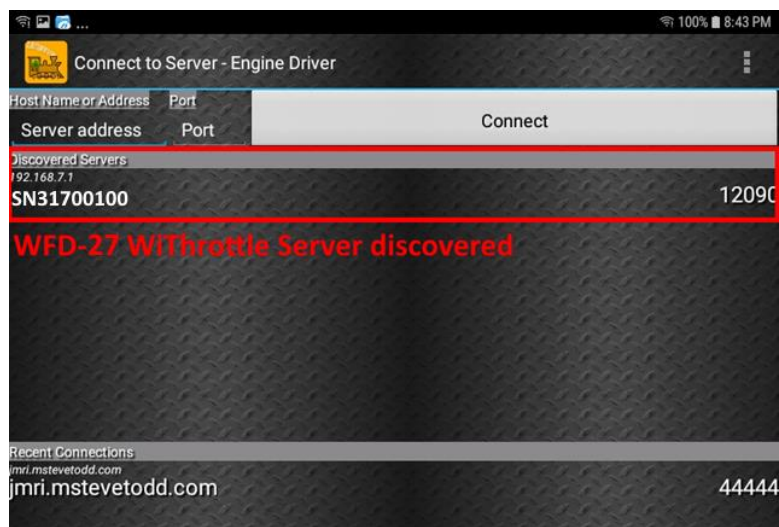

Figure 16 The WFD-27 WiThrottle Server is discovered by the Engine Driver app on Android
- (8) On the Apps find the Engine Driver app icon – you may have to swipe right - (for convenience you could add a shortcut to your Home Screen), then tap it:
- (9) Go through the setup sequence, accepting all the defaults and allowing the required privileges.
(10) After setup, you should see the “Connect to Server” page with your WFD-27 listed as a “Discovered Server” as Figure 16. Tap on it to connect. The green network LED on your WFD-27 should now flash regularly to show that the UWT-100 is communicating with it.